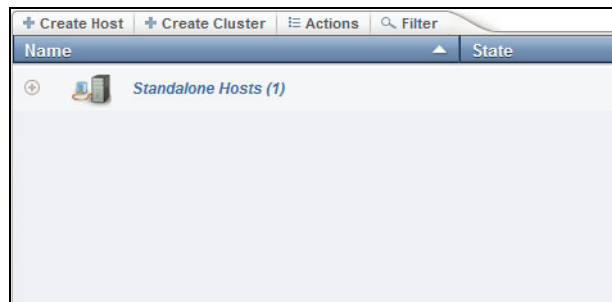

Figure 11-45 Create Cluster
3. The Hosts window opens. Click the **Create Cluster** tab as shown in Figure 11-45.